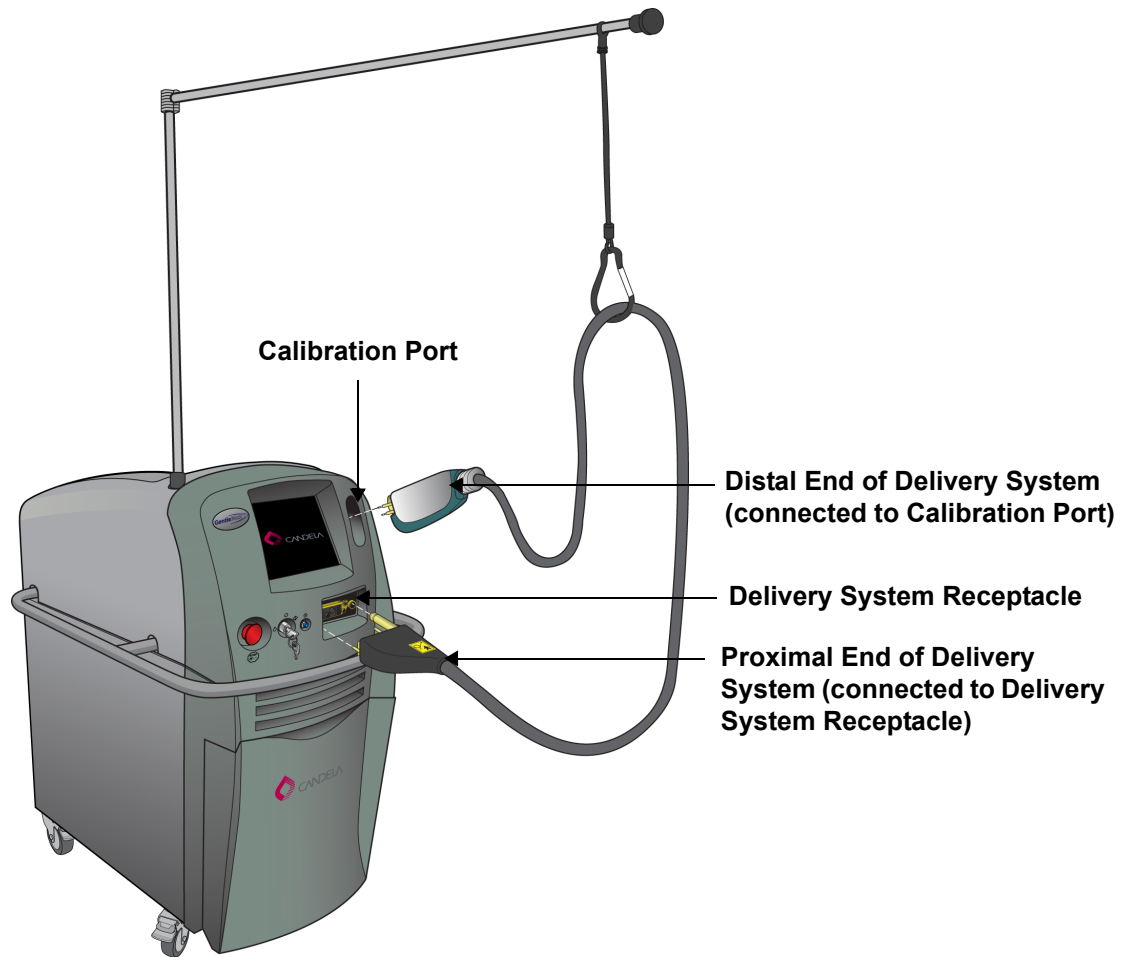

Figure 3-4: Install Delivery System Cable into the Laser System
4. Insert the proximal end of the Delivery System cable into the Delivery System Receptacle. Verify that the cluster connector is tight and secure. Insert the distal end of the Delivery System cable (the Handpiece Assembly with the Lens Cartridge and Distance Gauge installed) into the Calibration Port (see **Figure 3-4**).
20. Insert the Handpiece into the Calibration Port (see **Figure 3-4**).
22. Follow the instructions on the screen. You are first instructed to place the Handpiece into the Calibration Port (see **Figure 3-4**). Perform this step if the Handpiece is not already in the Calibration Port. Note that if the Fingerswitch is set, the screen will prompt you to press a button that will be displayed to begin calibration. If Footswitch is selected, the screen will prompt you to “Depress Footswitch.” Press and hold the Footswitch.